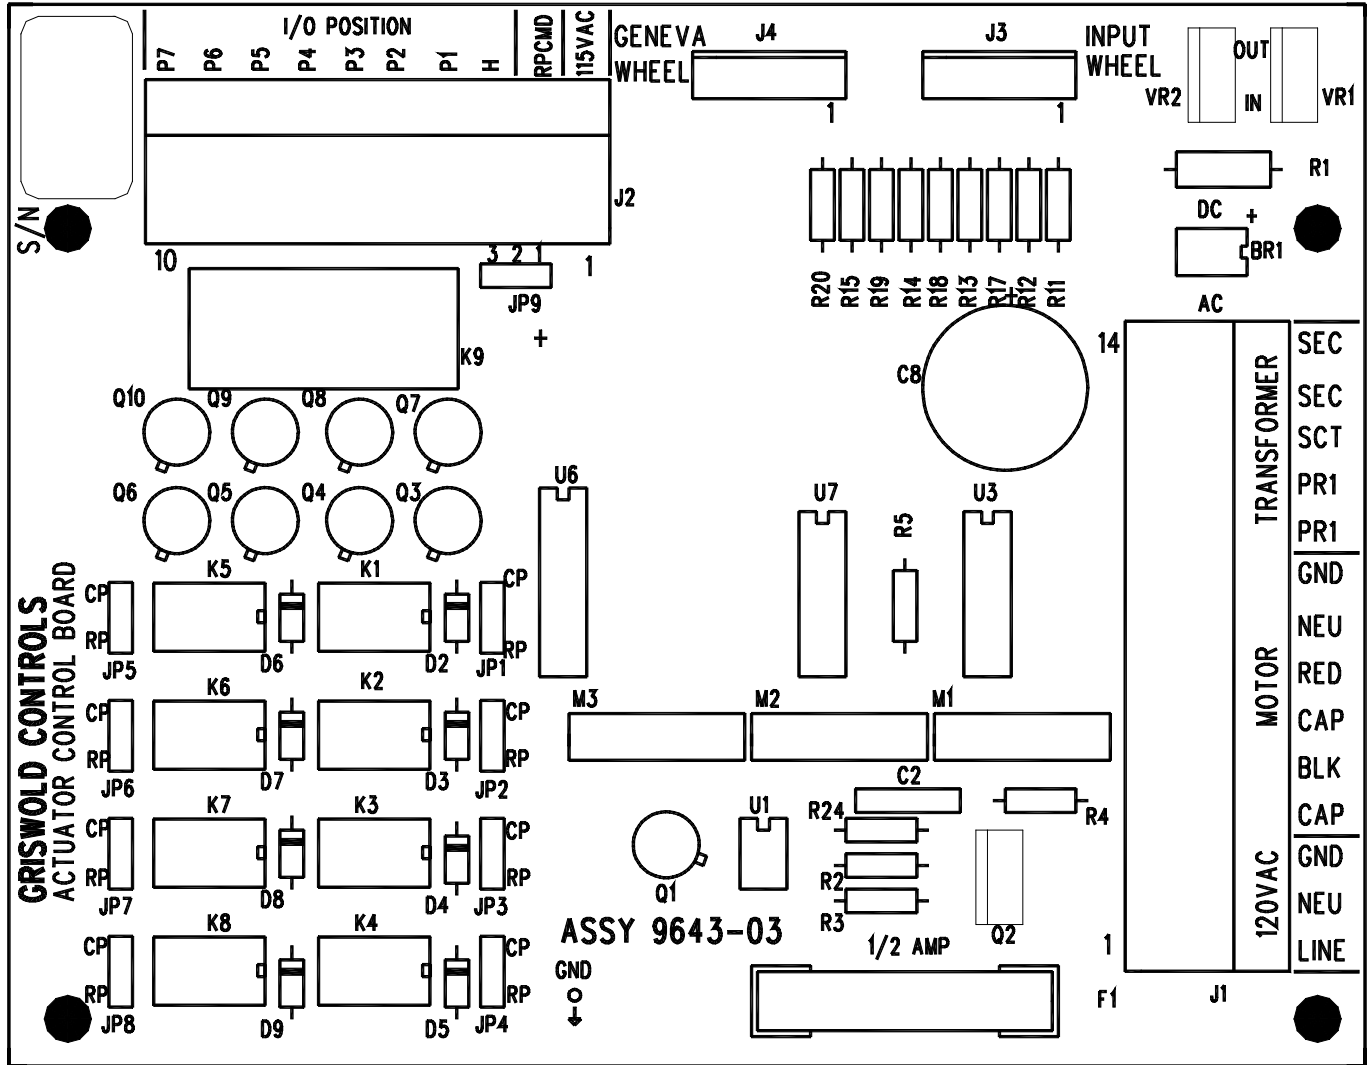
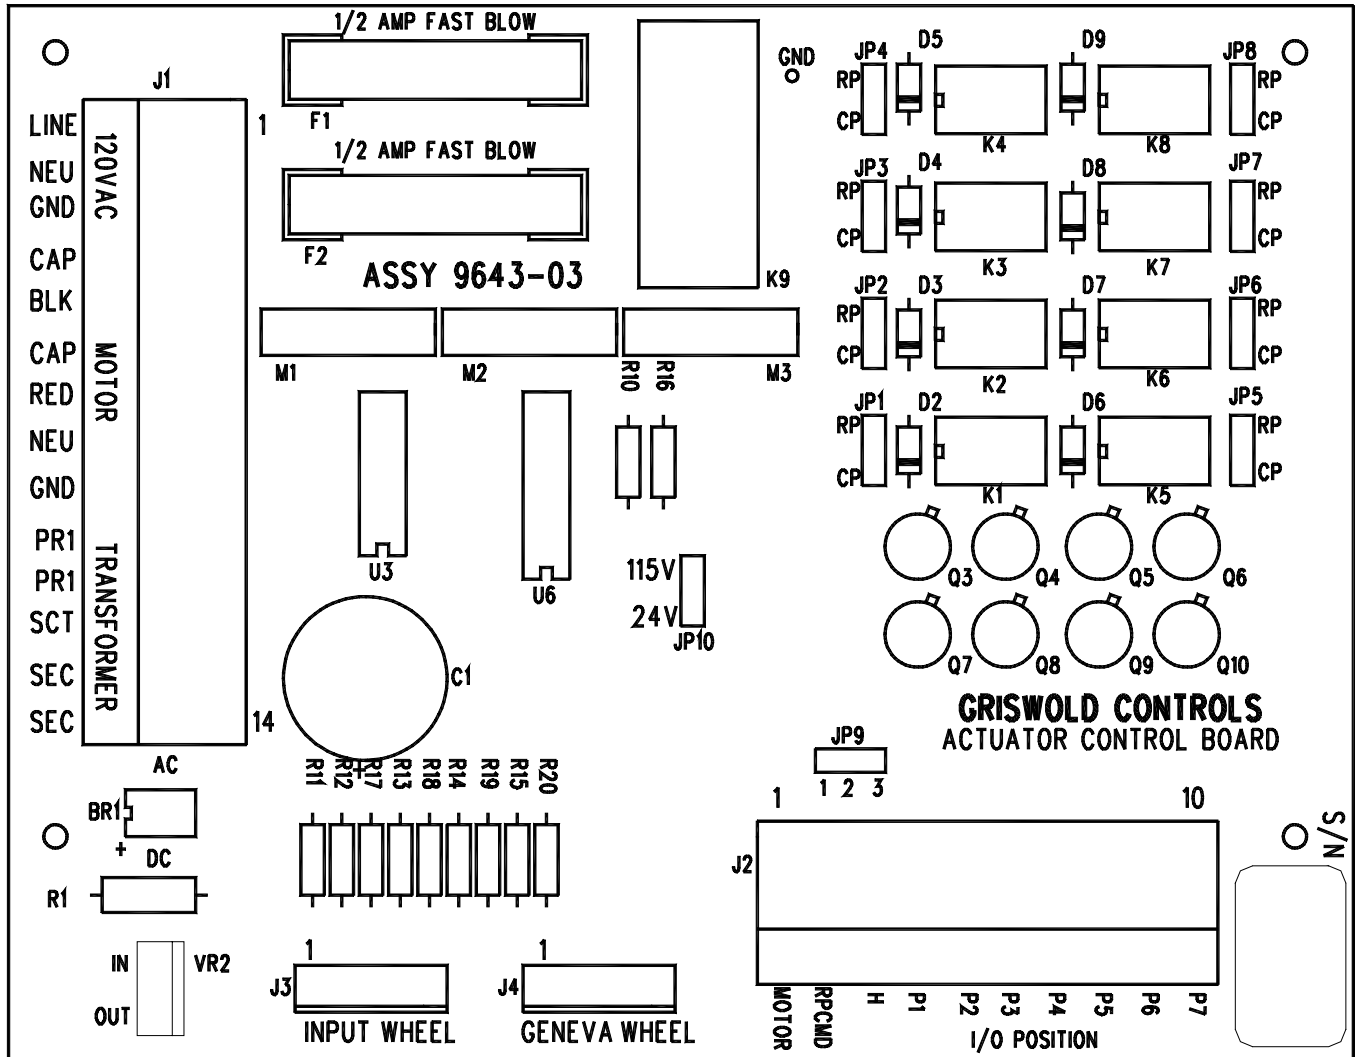

Fig.1
Fig. 2
2.2.1 Jumper Settings (Refer to Fig.1 & 2)
Note: JP10 is on board revision-D only (see Fig.2). Board revision-C allows the motor to be controlled with 115 VAC only and is labeled 115 VAC on J2 (see Fig.1)
2.3.1 Jumper Settings (Refer to Fig.1 & 2)
With main power connected, measure voltage of transformers primary and secondary wire leads, located on connector J1. (SEE Fig.1 or 2) The voltage between PR1-PR1 should be 115 VAC. The voltage between SEC-SEC should be 24 VAC. If this is not the case, check fuse F1 to see if it is blown, otherwise the transformer is not working